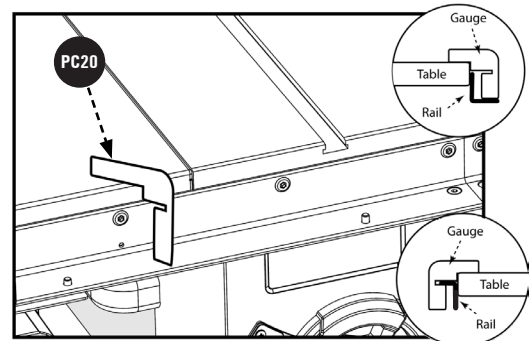

Figure 7
3. Use supplied Rail Alignment Gauge **HP20** to ensure the Rails are the proper distance from the top of the Table. See Figure 7.